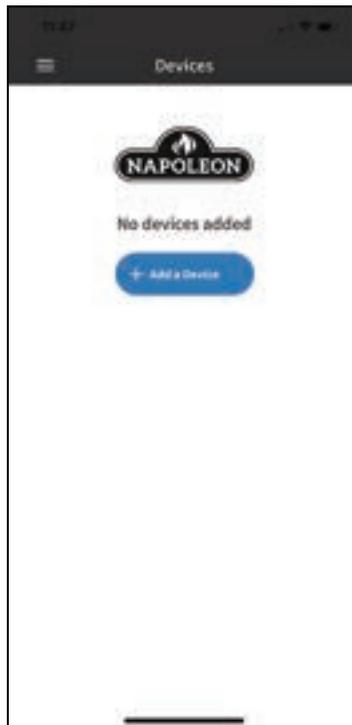

Fig. 3
4. Select “Add Device” and accept permissions (**Fig. 3 & 4**).